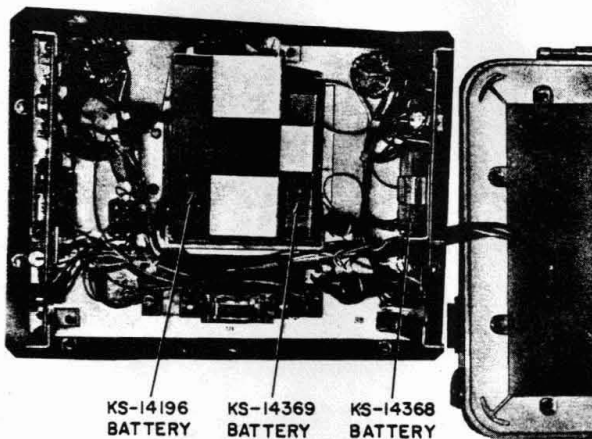

Fig. 20—Battery Replacement In L8 Control Unit
9.03 Disconnect the L9 power cord and connect the L10 tone cord to the L8 control unit. Short the clips of the L10 tone cord (Fig. 20).